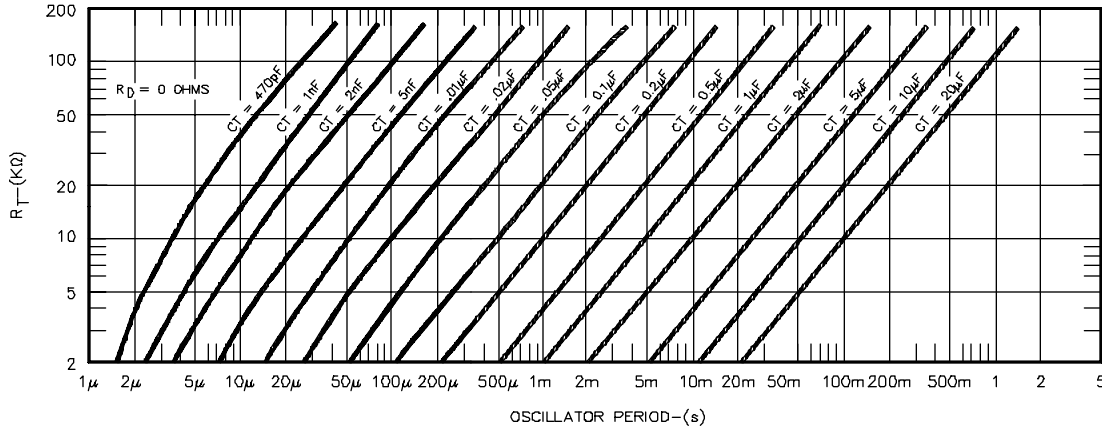

FIGURE 19. OSCILLATOR PERIOD VS.  $R_T$  AND  $C_T$
1. With  $R_D = 0\Omega$  (pin 11 shorted to ground) select values for  $R_T$  and  $C_T$  from Figure 19 to give the desired oscillator period. Remember that the frequency at each driver output is half the oscillator frequency, and the frequency at the  $+V_C$  terminal is the same as the oscillator frequency.